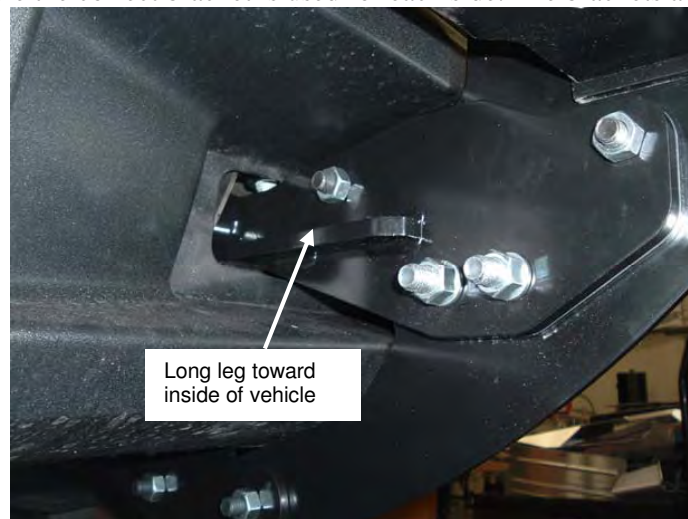

Figure 4 Frame Extension Installed
6. Install the frame extension brackets through the tow loop holes in the bumper and slide them into the vehicle frame as shown in figure 4. Make sure the correct bracket is used for each side. The brackets are very similar.